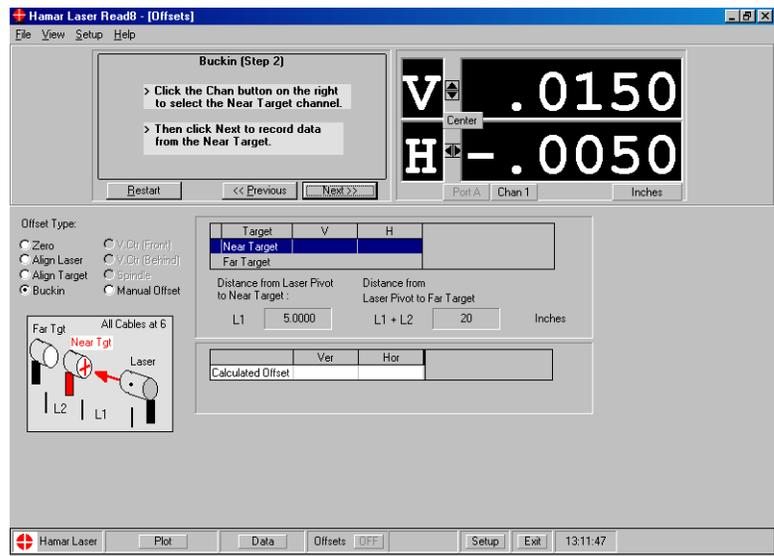

Figure 57 – Buckin Offset Screen – Record Near Target (Step 2)
8. Click Next to proceed to Step 2 (see Figure 57).